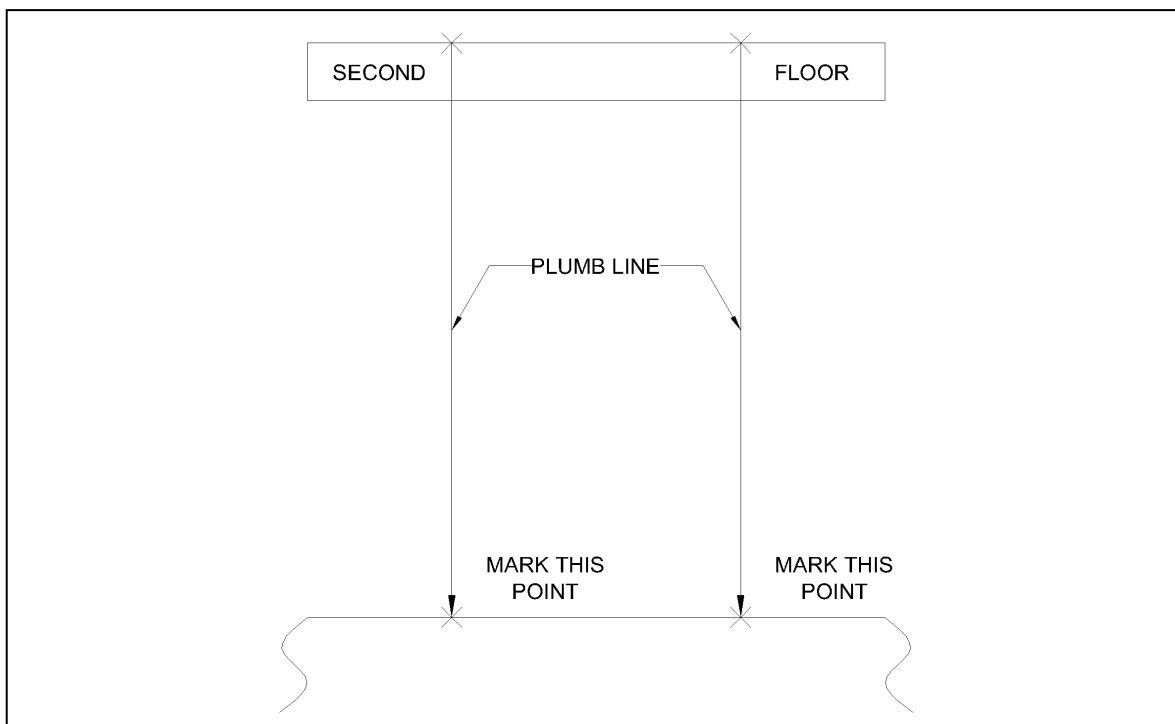

Figure 14 Locating Outside Edges of Carriage at the First Floor (Front View)
- c. **Figure 14** - Drop plumb lines from the upper level to the lower level using the two markings identifying the outside edges of the carriage platform. Again, the plumb line must be held 1" out from the edge of the mezzanine or opening at the second floor to provide adequate clearance.